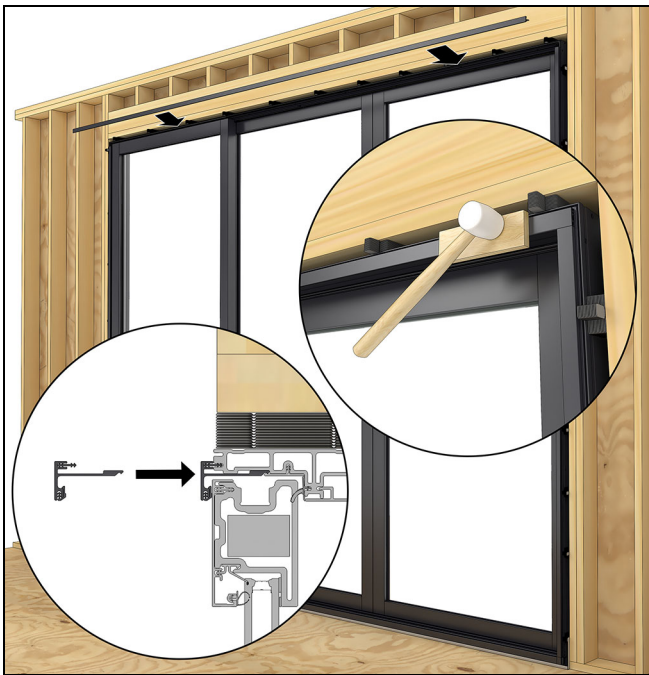

Figure 108
10. Install the head jamb frame retainer. Slide the frame retainer above the operator panel and seat the barb into the frame with a wood block and mallet. See Figure 108.
Make sure the end of the panel retainer engages with the hooked end of the frame liner as shown in Figure 108 with white arrows.